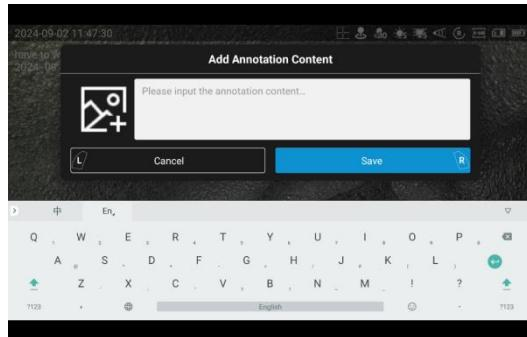
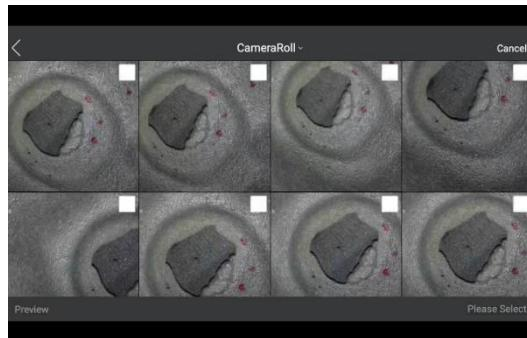

Figure 8-24
Figure 8-25
1) click the  [Add Annotation] icon, it will enter the annotation addition window(as shown in Figure 8-24); click the  [photo] icon on the left to select annotation photo or input text to add the annoation text (as shown in Figure 8-25); and then click “Save” to save the added annotation.